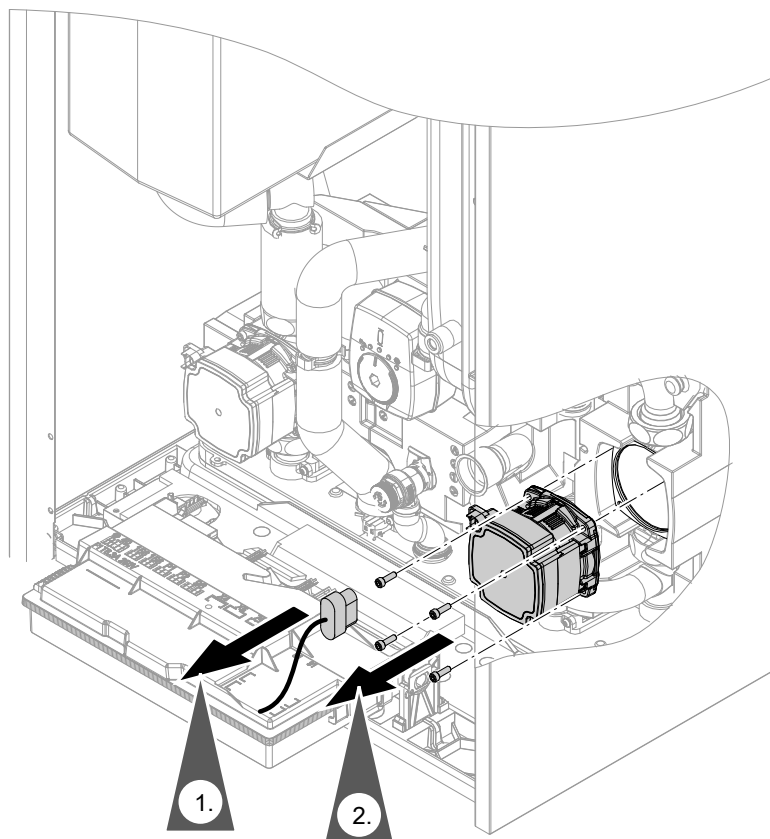

Fig. 95
- Circulation pump connection plugs: See Fig. 95.